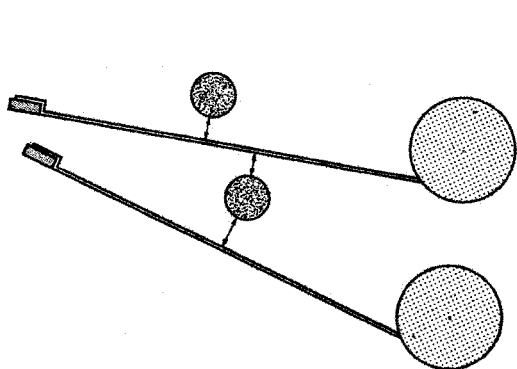

FIGURE 20
The blades of the two pawls should be as straight as possible and should on no account touch the pins. (See Figure 20.)
5. When the click jewels are good, check the tension of the clicks as shown in Figures 20 and 21. Adjust the tension.